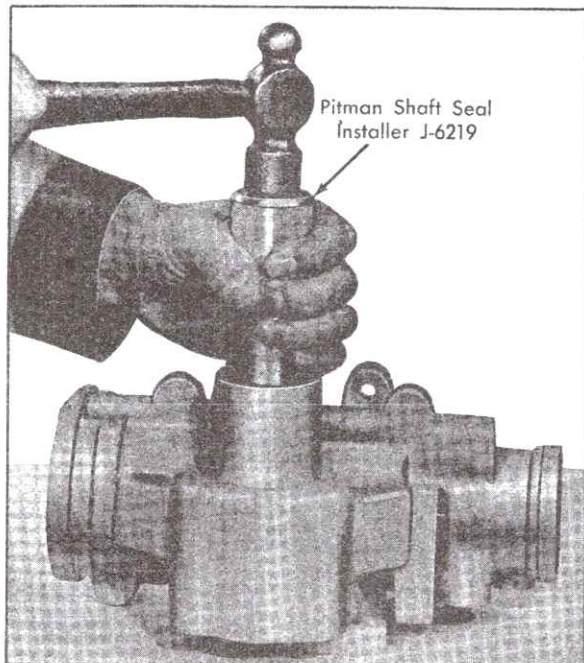

Fig. 9-27 Installing Pitman Shaft Seal
3. Lubricate pitman shaft bore and single lip pitman shaft seal with power steering fluid and install seal, lip down, into bore, using Seal Installer, J-6219, Fig. 9-27. Do not drive seal more than 1/8 inch below lip of bore.